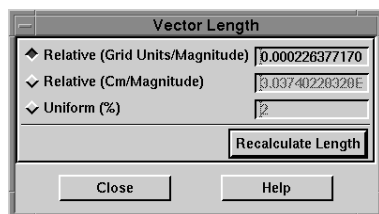

Figure 11-7. The Vector Length dialog.
1. Choose Length from the Vector sub-menu of the Plot menu. The Vector Length dialog appears as shown in Figure 11-7.